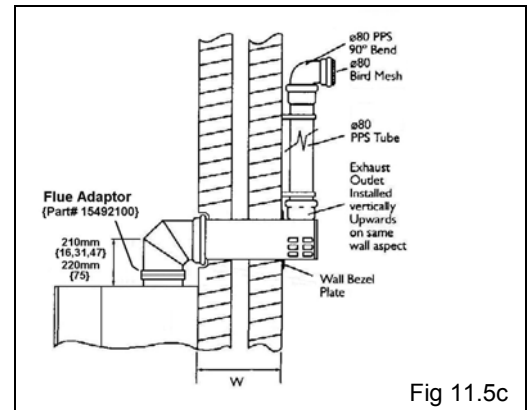

Fig 11.5c
- 3) Lubricate the male end of the 80mmØ PPS flue bend; locate onto the flue pipe socket, and gently push home. Install the Bird Mesh Cowl into the socket of the flue bend. See fig 11.5c.